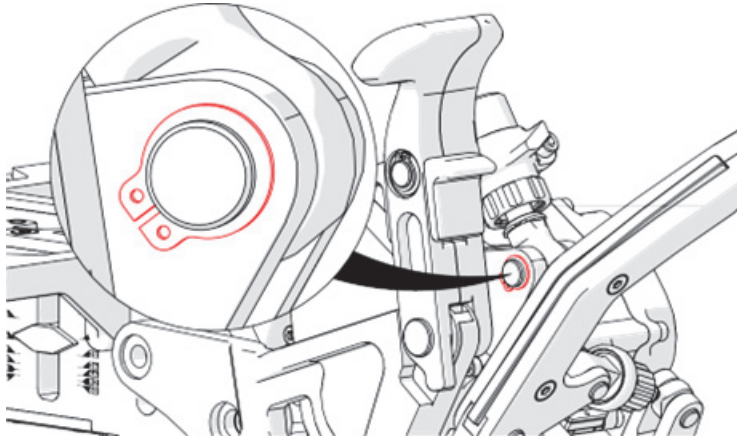

Figure 2-25 Remove the snap ring
4. Remove the snap ring from the base of the wheel tension cylinder (see Figure 2-25 on page 101).